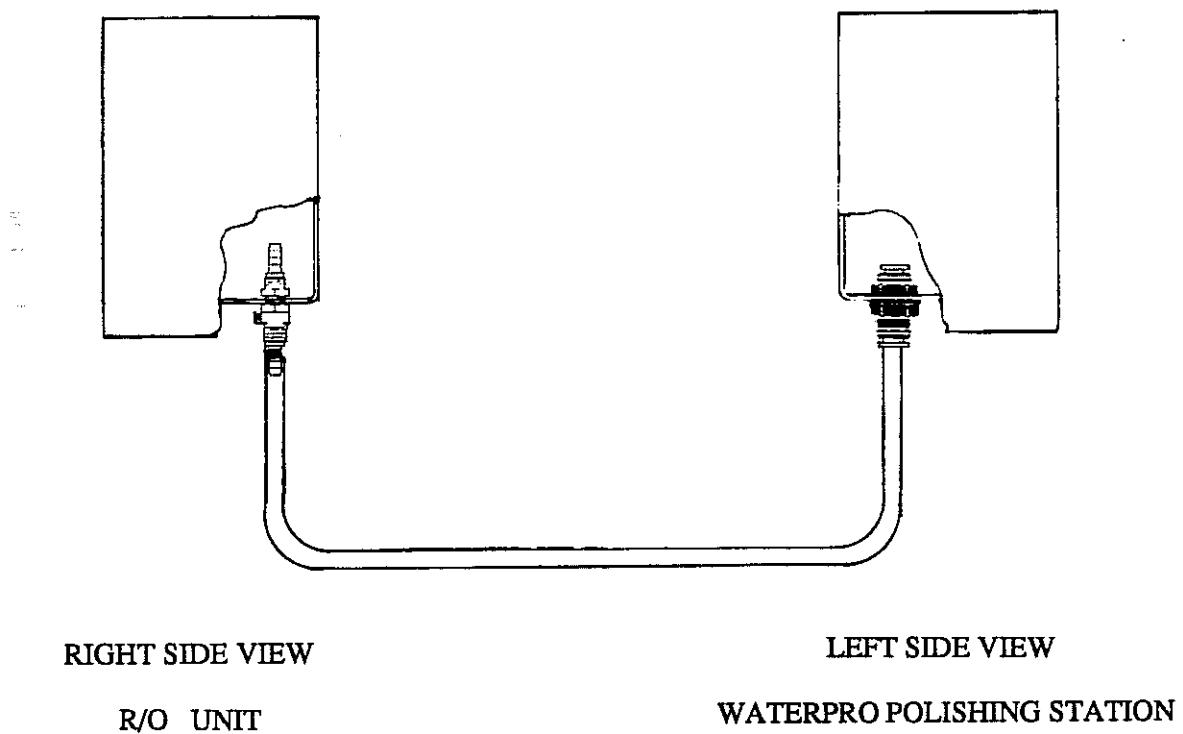

Figure 7
Connect black 1/4" x 3/8" polyurethane tubing from Polishing Station (PS) connection kit (P/N 90789) or equivalent to alternate valve, and clamp in place. Insert into bulk-head fitting in WaterPro PS. See Figure 7.